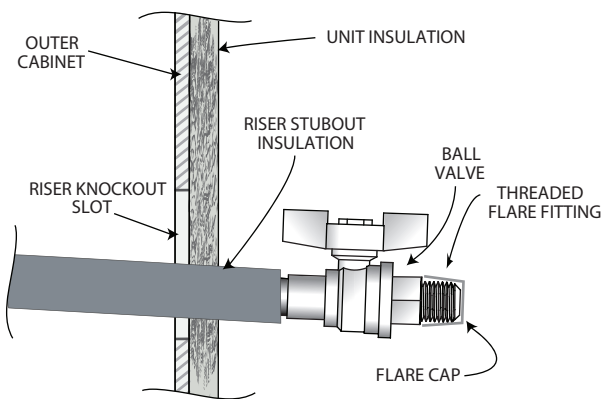

Fig. 27 — 42SM Riser to Unit Installation
1. Carefully position the unit so that the riser ball valves penetrate into the unit through the riser slot making sure the insulation penetrates into the unit as shown in Fig. 27 and 28.